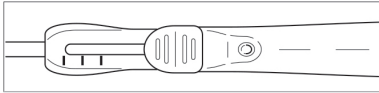

Figure 12: Handle Marks for 8mm Length Balloon
c. When using the 8 mm length balloon, multiple inflations may be needed in order to achieve the desired result. Partially retract the balloon slide mechanism between inflations using the 5 mm handle reference marks to ensure full length treatment. See Figure 12.